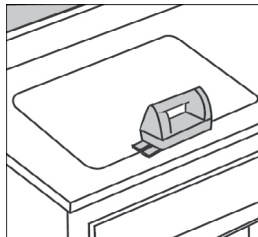

Figure 2
3. Cut the hole for the sink, using a jig saw to cut along the outline between each hole (Figure 2).